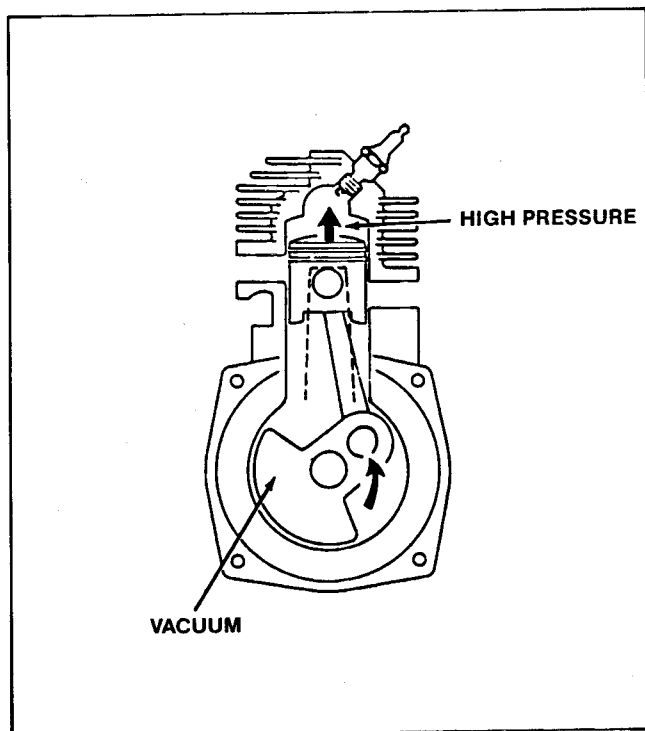

Figure 80
4. The upward movement of the piston builds pressure (compression) in the combustion chamber. See Fig. 80.